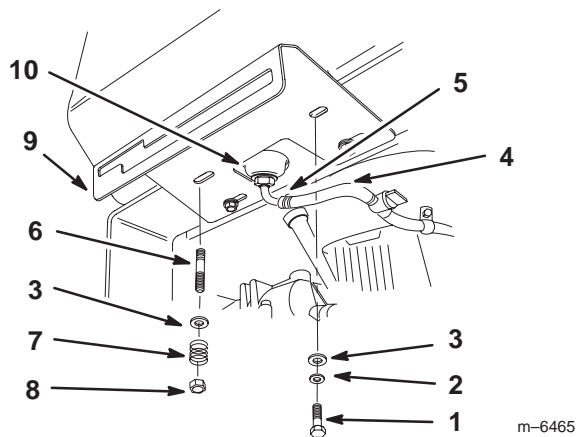

Figure 12
4. Push the fuel line onto the fuel tank connection and secure it with the hose clamp that is on the fuel line (Fig. 12).
- Secure the right side of shift lever plate and fuel tank to the rear frame (Fig. 12) with 2 bolts (5/16 x 7/8 inch), lock washers (5/16 inch) and washers (5/16 inch) (Fig. 12).
- Secure the left side shift lever plate and fuel tank to the rear frame (Fig. 12) with washers (5/16 inch), springs and locknuts (5/16 inch) (Fig. 12).